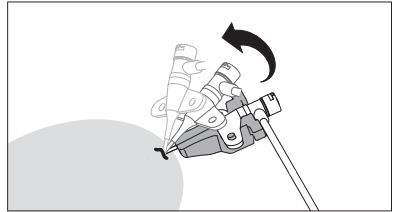

Figure 10
- Remove juncture hub advancer from catheter by gently lifting up on the catheter while holding the juncture hub advancer (refer to Figure 10). Once disengaged, remove juncture hub advancer and discard.